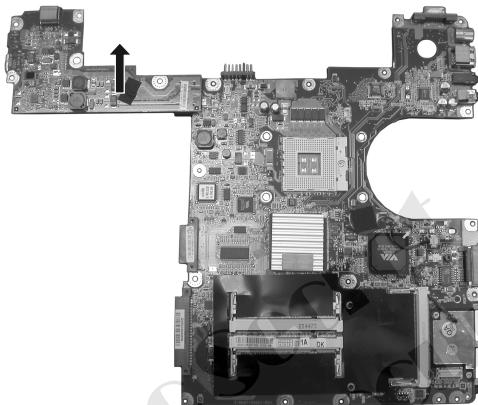

Figure 2-29 Free the system board
6. Separate the daughter board from the system board and free the system board. (Figure 2-29)